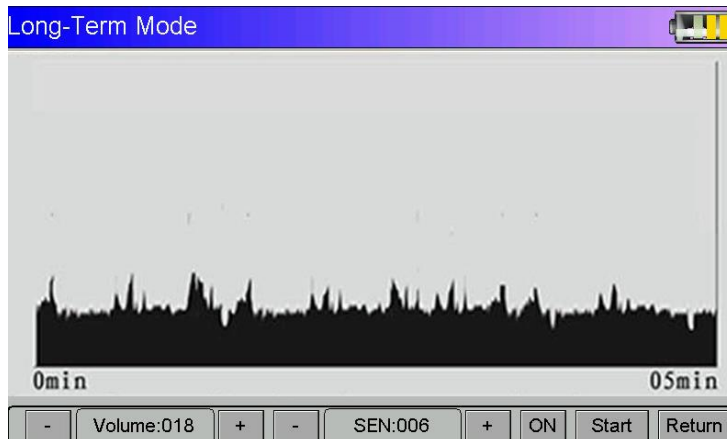
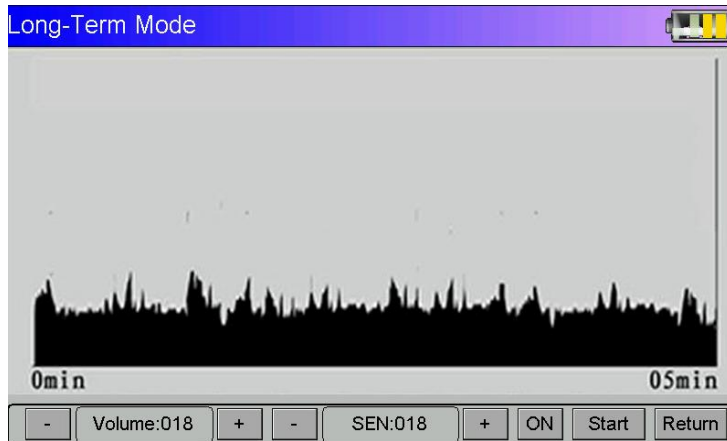

Figure 1
Figure 2
- (1) The sensor direct contact with the pipe for continuous monitoring
- Pipeline flow is small: whether to raise or lower the sensitivity, the curve volatility is not big, can judge where is not the leakage point. (See Figure 1, Figure 2)